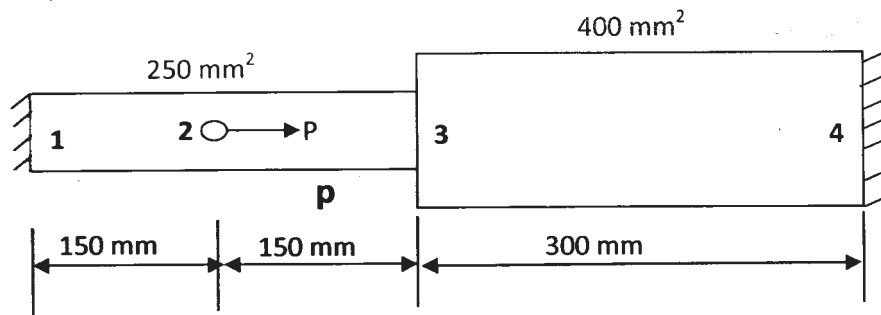

Fig.2.
- b) Determine the nodal Displacement, element stresses and support reactions of the axially loaded bar as shown in Fig.2. Take  $E=200$  GPa and  $P=30$  KN at node 2. [10]